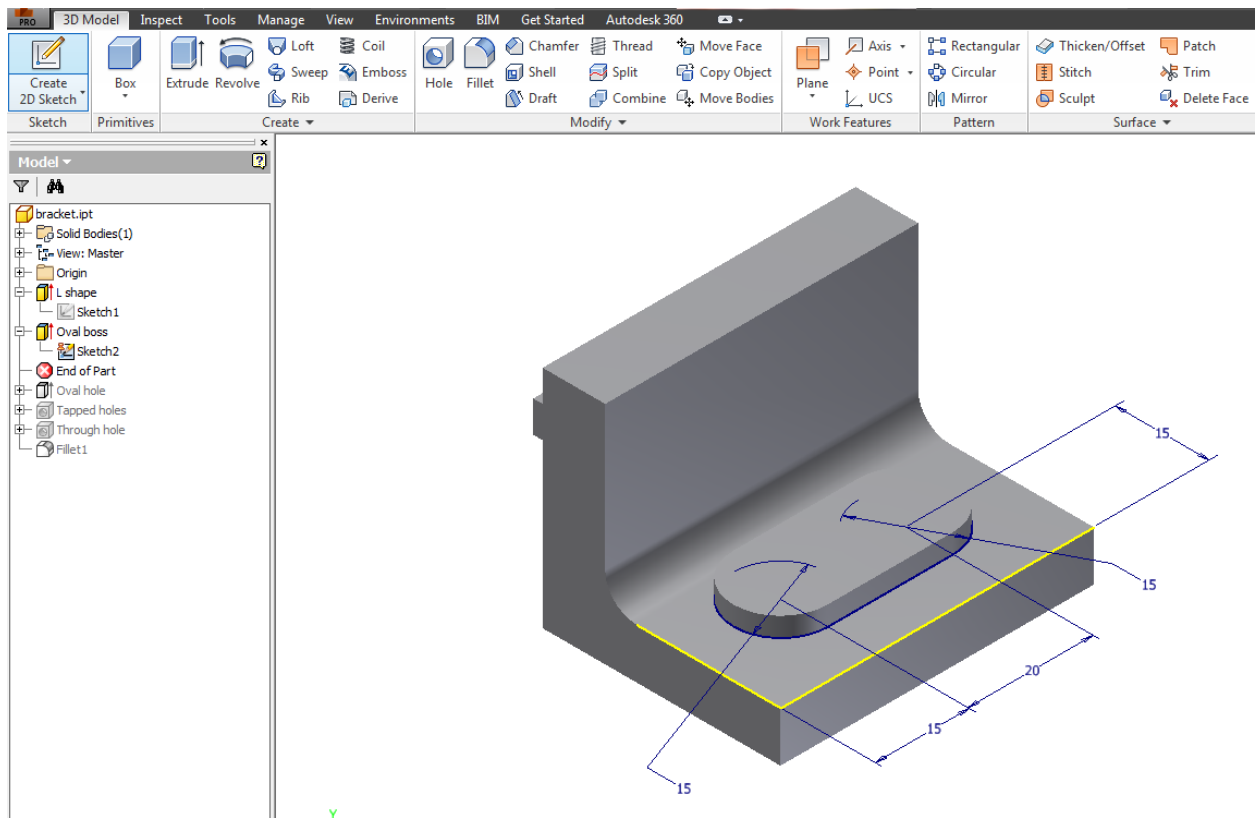

Fig. 1b
- Re-orient an isometric view and place a second sketch centrally on the face shown and extrude 3mm (Fig 1b). On the top of the oval boss, sketch an offset oval 2.5 inside and extrude through to cut a hole. *Tip - use **Project geometry**.*